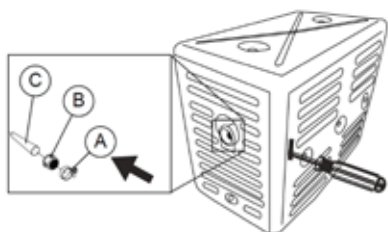

Figure 19: Remove Screw Holding Spark Arrestor
3. Slide in screwdriver into side slot and remove screw holding clip (A) on spark arrestor. Pull out spark arrestor assembly (see Figure 19).